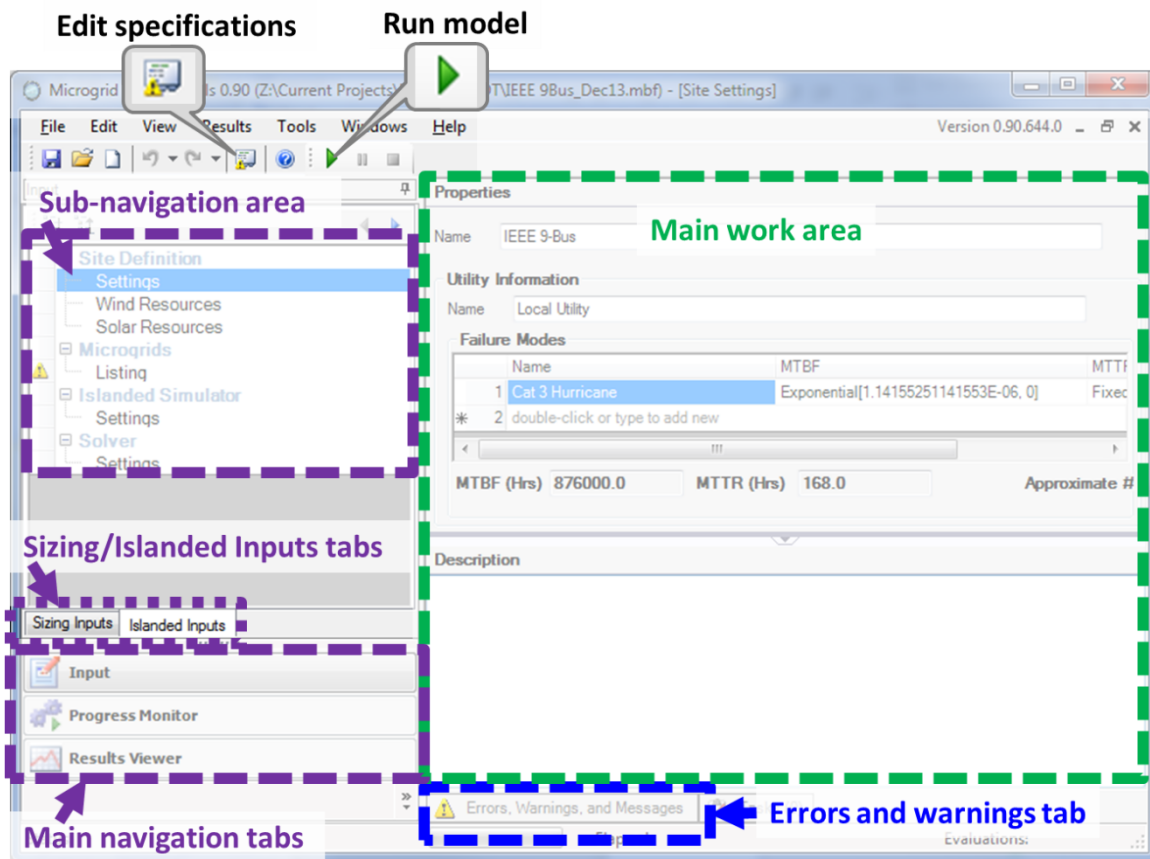

Figure 62. MDT main screen overview.
There are three main areas of MDT. They are accessed via tabs at the bottom left corner of the screen (*Main navigation tabs* in Figure 62).
Pages within each section are accessed via links in the upper left corner of the screen (*Sub-navigation area* in Figure 62). When the Input tab (under *Main navigation tabs* in Figure 62) is selected, the user can choose whether to display Sizing Inputs or Islanded Inputs (using the tabs just above the main navigation tabs) depending on the analysis being performed. Islanded Inputs is the default mode.
- The **page navigation** area is located on the left side of the page (highlighted in purple in Figure 62).
- The **main work area** (highlighted in green in Figure 62) takes up the majority of the screen. This is where elements are added and modified.
Errors  and **warnings**  for all pages are accessible through the “Errors, Warnings, and Messages” tab at the bottom of the screen (highlighted in blue in Figure 62). Errors and warnings are also displayed on the element pages next to the elements with problems.